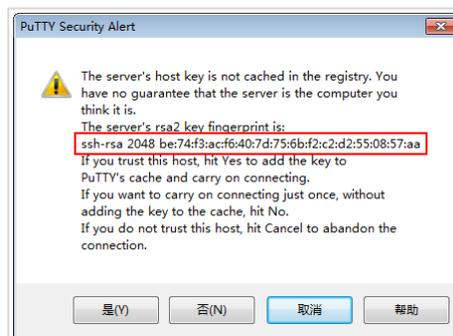

Figure 6-3 PuTTY Security Alarm
Step 4 If the alarm page shown in Figure 6-3 is displayed, check whether the serial number of the server is the same as that displayed in the PuTTY Security Alert dialog box. If yes, click Yes. Otherwise, click Cancel.